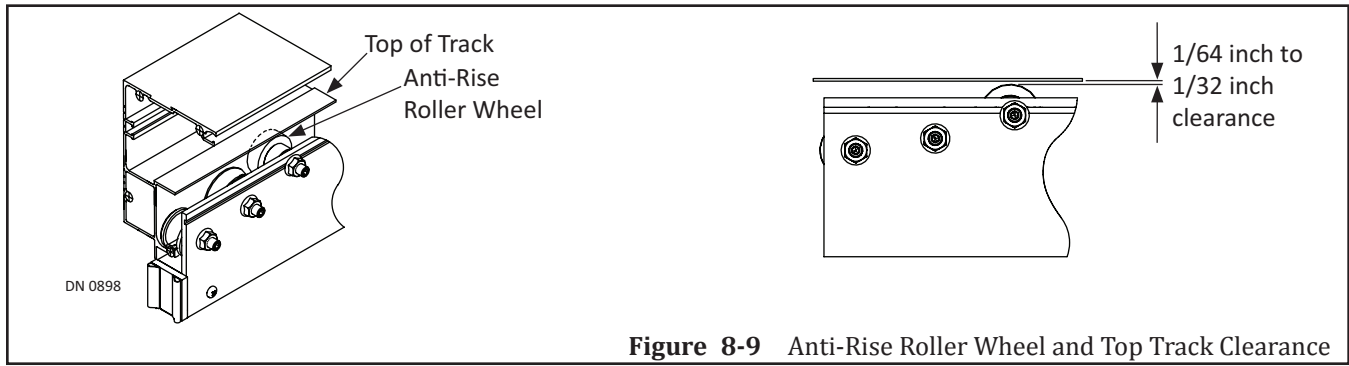

Figure 8-9 Anti-Rise Roller Wheel and Top Track Clearance
3. Loosen (2) Anti-Rise Rollers located towards the middle of the Carrier. Please refer to Subsection 8.e.a.
4. Turn the Axle clockwise until there is a 1/64 inch to 1/32 inch gap between the Roller Wheel and the Top Track. Please see Figure 8-9.